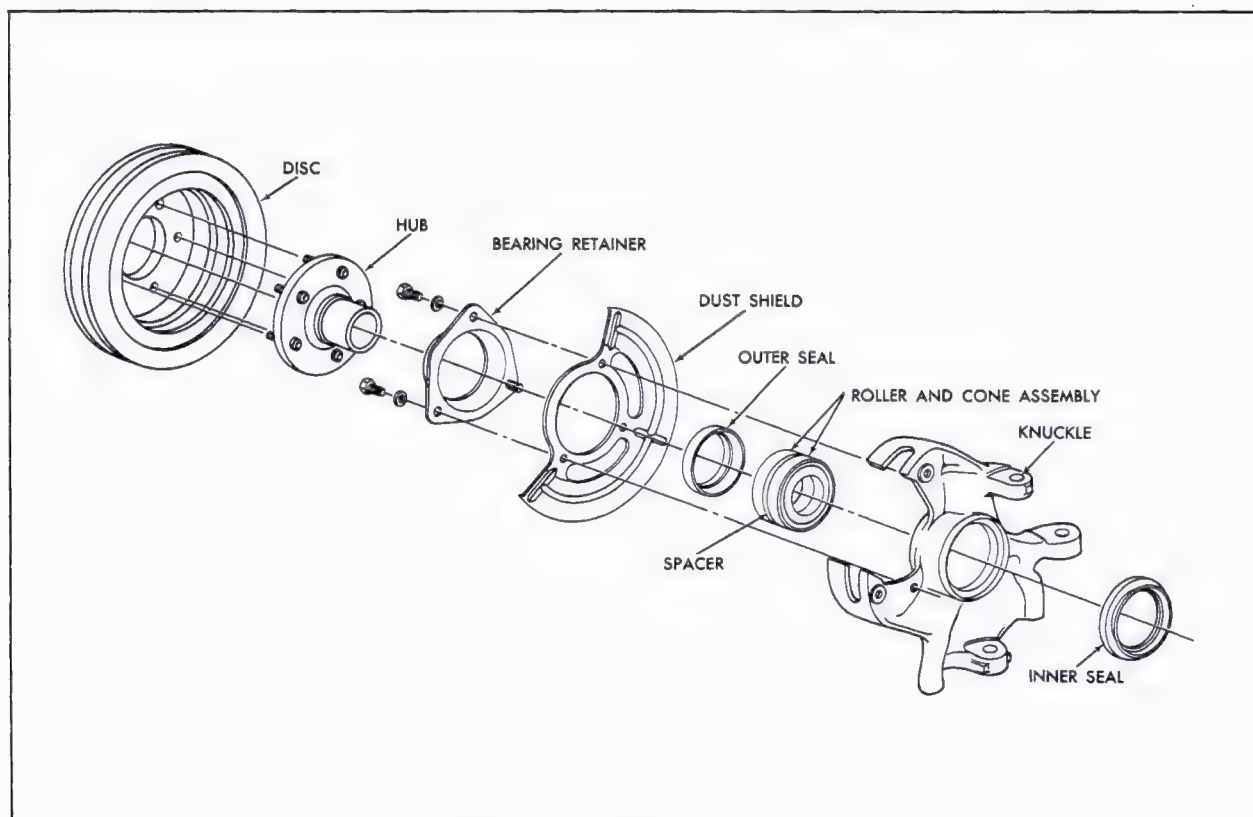

Fig. 3-33 Front Hub, Bearing and Retainer
20. Hub, Bearing and Retainer (Fig. 3-33)